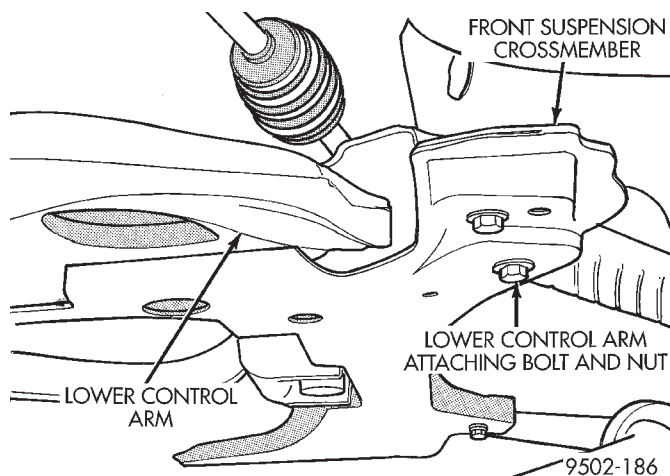
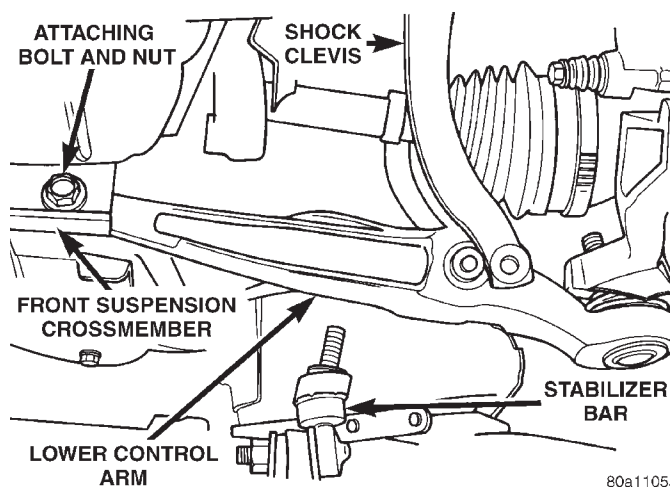

Fig. 35 Lower Control Arm Attachment To Front Suspension Crossmember
Fig. 36 Attaching Front Of Lower Control Arm To Suspension Crossmember
(10) Lower the one side of the stabilizer bar away from the lower control arm and body of vehicle.
(11) Remove the nut and bolt (Fig. 35) attaching the rear of the lower control arm to the front suspension crossmember.
(12) Remove nut and bolt attaching the front of the lower control arm to the front suspension crossmember (Fig. 36).
(1) Position rear of lower control arm into front suspension crossmember first. Then install front of lower control arm in front suspension crossmember. Install bolts and nuts (Fig. 36) and (Fig. 35) attaching the front and rear of lower control arm to front suspension crossmember. **Do not tighten front attaching bolt at this time.**
(2) Tighten lower control arm rear attaching nut and bolt (Fig. 35) to a torque of 95 N·m (70 ft. lbs.).
(12) Tighten front lower control arm nut and bolt (Fig. 36) to a torque of 182 N·m (135 ft. lbs.).
(13) Install wheel and tire assembly.
(14) Tighten the wheel mounting stud nuts in proper sequence until all nuts are torqued to half specification. Then repeat the tightening sequence to the full specified torque of 135 N·m (100 ft. lbs.).
(15) Remove jack stand from under lower control arm and lower vehicle to the ground.
(16) Check the vehicles alignment specifications and set front Toe to preferred specifications.